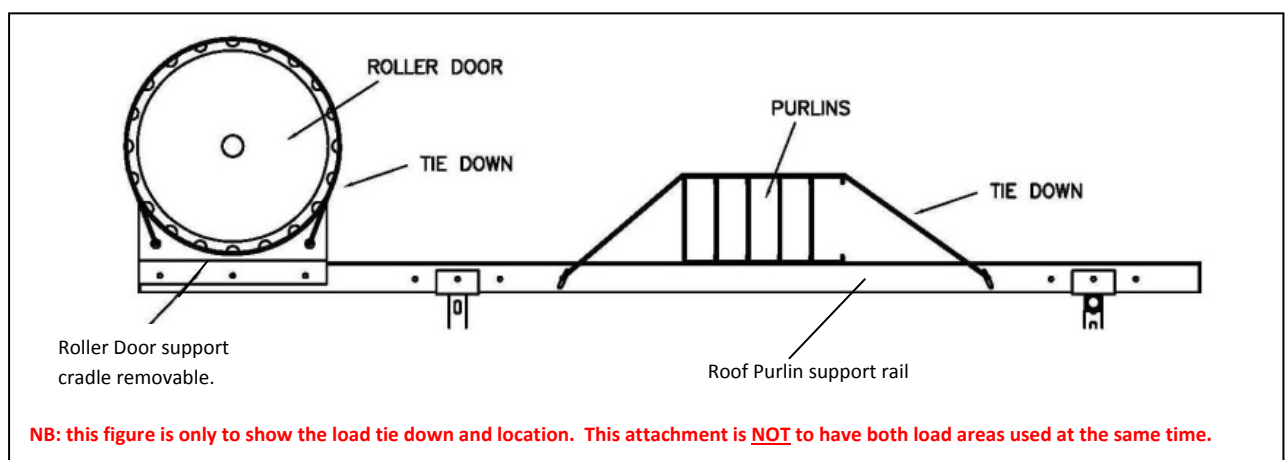

Figure 1.6 Load Location & Secured
5. Place the load so that it rests in the attachment as per figure 1.6 'Load Location & Secured'.
7. Keep the load secured with tie down straps provided as per figure 1.6 'Load Location & Secured' when the scissor lift is moving or lifting.